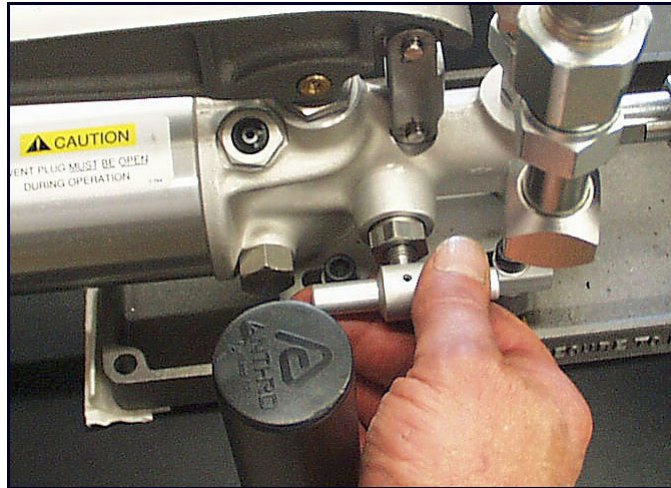

Figure 11
- 116 Rotate the Pressure Determination System release valve lever clockwise until firmly seated. See the arrow in Figure 11.